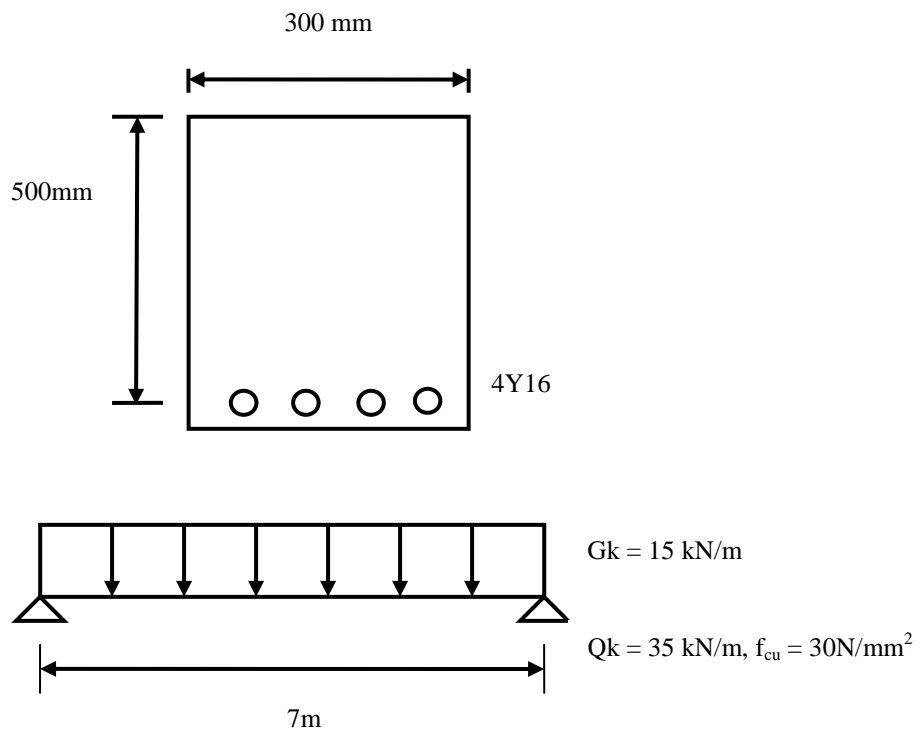

Figure 6.0
5. (a) Using Figure 6.0, design for the shear reinforcement ( $f_y = 250 \text{ MPa}$ ) for the beam subjected to imposed load (Qk) and dead load (Gk).